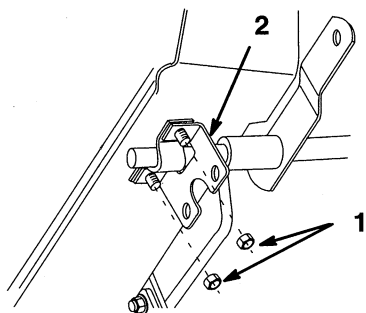

Figure 7
3. Remove nuts and washers from right side foot rest cross shaft (Fig. 7). Do not remove cross shaft bracket.
4. Locate crank handle bracket under right side foot rest with 90 degree bend to inside (Fig. 7). Secure with previously removed lock nuts.